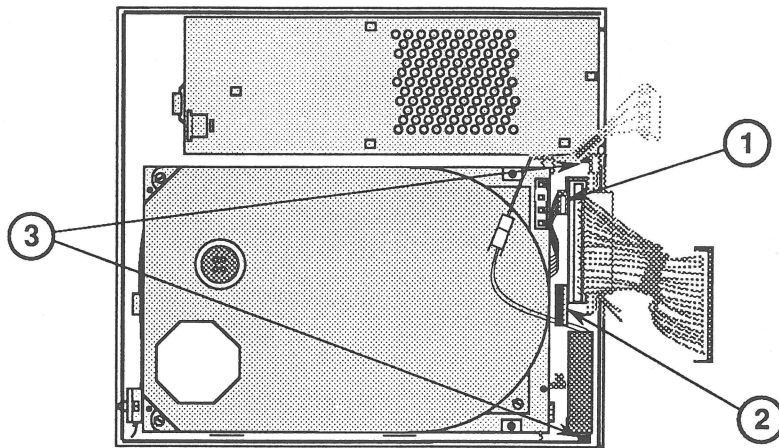

FIGURE 19
5. Disconnect the SCSI select switch cable connector (Figure 19, #1) from the SCSI select switch.
6. Using a flat-blade screwdriver, push back the plastic tab (Figure 19, #2) and lift out the metal fan frame (with fan, HDA-to-case cable, fan cable, and SCSI select switch attached).
1. Slide the side edges of the metal fan frame (with fan, HDA-to-case cable, fan cable, and SCSI select switch attached) into the **center** slots of the holding tabs (Figure 19, #3) located on the inside of the case bottom.
2. Push back the plastic tab (Figure 19, #2), and push the fan frame into place.
3. Connect the SCSI select switch cable (Figure 19, #1).